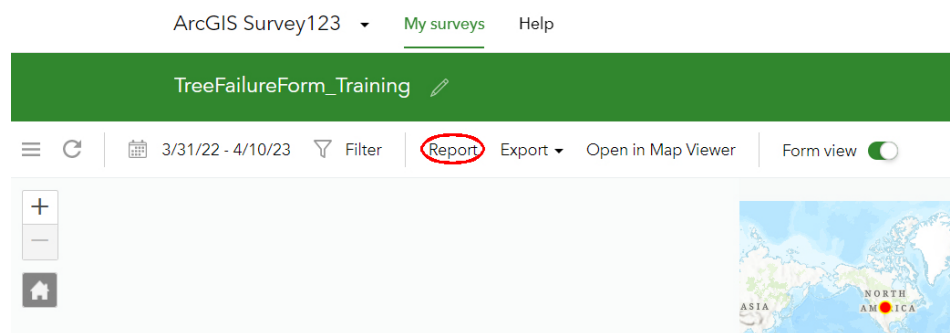

Figure 15. Select "report."
- 6) Click on "Report" (**Figure 15**) and fill in the information/select the options you want. TreeFailureForm currently has one report option, *TreeFailure_Report*, that generates a single tree report.